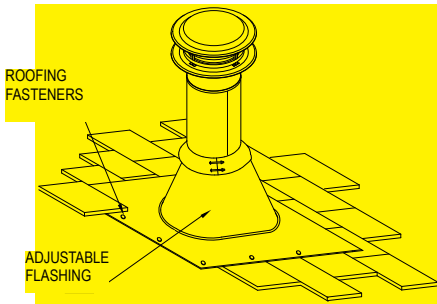

Figure 12
remains vertical (use a level), and that at least a 2-inch clearance to combustible materials is maintained all around. Install the upper edge of the Flashing under the roofing. Nail to the roof along the upper edge and down each side with 1-inch roofing nails. Do not nail the lower edge of the Flashing (**Fig 12**). Be sure to follow local building practices, as needed. Seal all nail heads with a non-hardening waterproof sealant. On flat or tarred and graveled roofs, nail and seal the Flat Roof Flashing to the roof on all sides with roofing compound. Do not put screws through the Flashing into the Chimney Pipe.
**11. Finish Top:** Apply a non-hardening waterproof sealant around the chimney at the point where the Storm Collar will meet the chimney just above the Flashing, and also along the vertical seam of the chimney pipe, where it is exposed to the weather (**Figures 12 and 13**). Slide the Storm Collar down over the chimney to the top of the Flashing. Tighten the bolts of the Storm Collar and seal the Storm Collar against the sealant. After installing sufficient Chimney Sections to meet the height requirement as shown in **Figure 1**, attach the Chimney Cap onto the top of